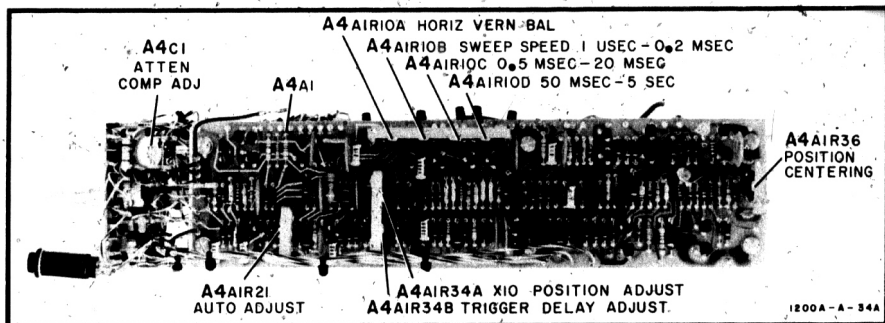

Figure 5-3. Horizontal Module Adjustments
f. Adjust A4A1R10A (Figure 5-3) to center dot on screen.
c. Adjust A4C1 (Figure 5-3) for minimum overshoot (observed as two well-defined dots 9 div apart). Be sure that intensity is temporarily increased to observe overshoot.
- c. Set A4A1R21 (Figure 5-3) to midrange.
d. Adjust A4A1R34B (Figure 5-3) cw until sweep free runs; then adjust it ccw until sweep stops. Center between these points.
f. Adjust A4A1R21 (Figure 5-3) to obtain triggering on both + and - setting of SLOPE switch.
b. Adjust A4A1R36 (Figure 5-3) so that beginning and end of trace are equidistant from graticule center when Horizontal POSITION is set fully cw or ccw.
- c. Adjust A4A1R34A (Figure 5-3) to align beginning of trace with graticule center.
- e. Adjust A4A1R10B (Figure 5-3) to obtain one time mark per division.
- h. Adjust A4A1R10C (Figure 5-3) to obtain one time mark per division.
- k. Adjust A4A1R10D (Figure 5-3) to obtain one time mark per division.